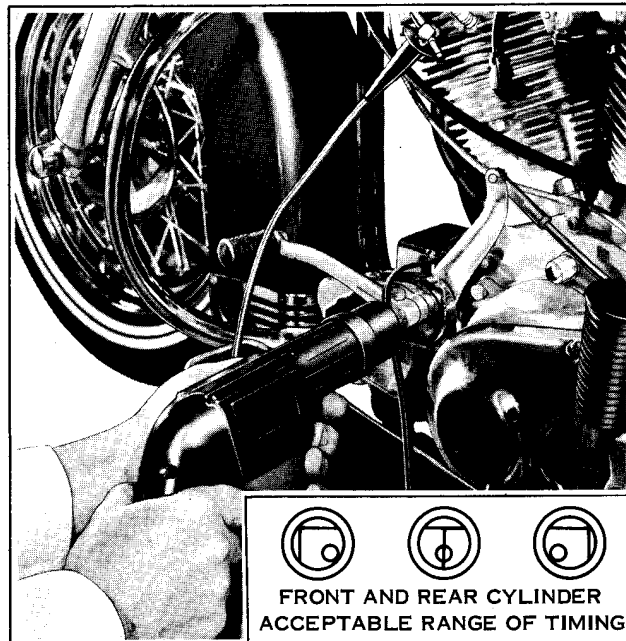

Figure 5-16. Checking Timing with Strobe Light
Use a strobe flash timing light (timing gun) to view advanced timing mark (12) on flywheel through accessory plastic view plug screwed into timing inspection hole (11) while engine is running at 2000 RPM. Timing light leads should be connected to front spark plug, ground and positive red wire to battery terminal. Light will flash each time front cylinder spark occurs (see Figure 5-16). Loosen circuit breaker plate screws (6) just enough so circuit breaker plate (8) can be shifted using a screwdriver in notch (9) as light aimed into inspection hole (11) stops timing mark (12) in center of hole. Timing will retard 30° automatically when engine is stopped.
Rear cylinder advance timing mark is a single dot which should appear on or near the front cylinder advance timing mark while viewing with timing light. See figure 5-16.